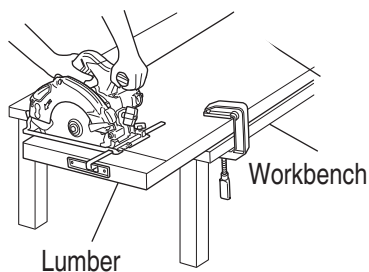

Fig. 2
4. Prepare a wooden workbench (Fig. 2)